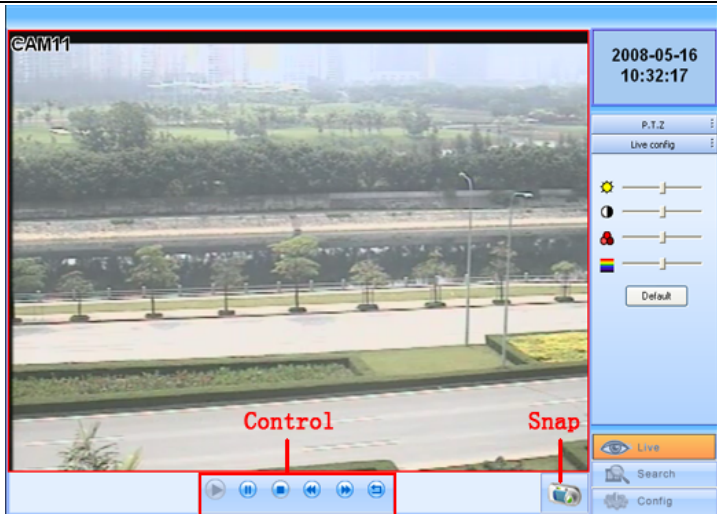

Fig 6.8 Remote Playback
STEP4 Click Play button to do remote playback, refer to Fig 6.8 Remote Playback.